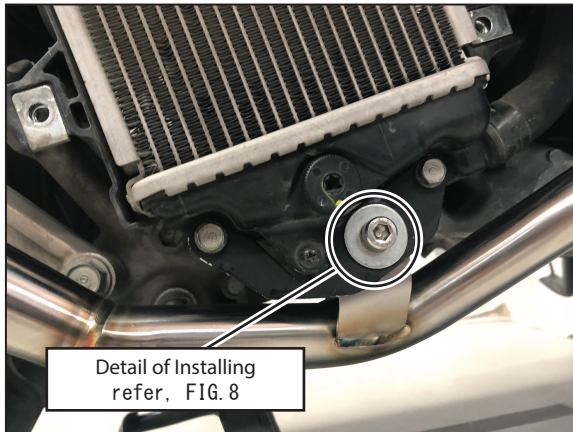

FIG. 7
- 7) Mount Exhaust Pipe Bracket #1 onto Exhaust Pipe Bracket #2 with Cap Bolt M8 x 20, 2-Washer M8 x 26 and Flange Nut M8 Tighten bolt by hand only at this stage (See Fig 7, 8).